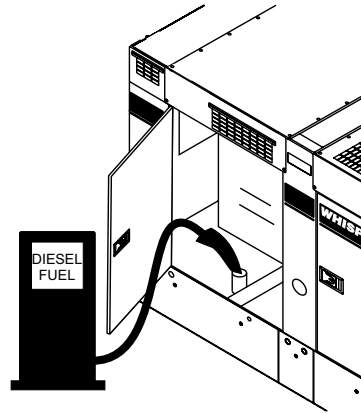

Figure 31. Fueling the Generator
2. Open cabinet doors on the “right side” of the generator (from generator control panel position). Remove fuel cap and fill tank as shown in Figure 31.